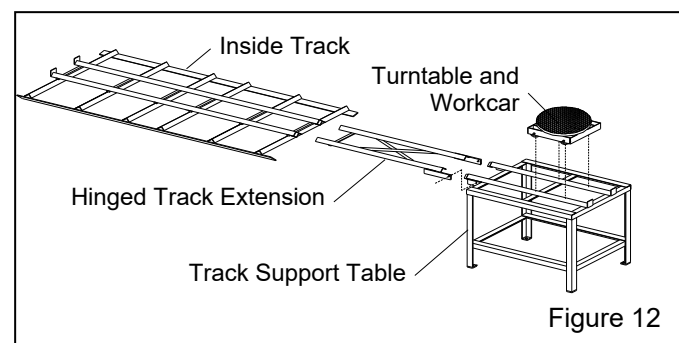

Figure 12
Installation note: The track may be placed on either side of the cabinet, allowing entry through either the right side or left side door; the right side is shown in the illustrations. When installing the inside track, place it so the stops are opposite the entry door, as shown in Figure 12.
3.4.1 Components of the turntable and track assembly are shown in Figure 12. The assembly consists of: